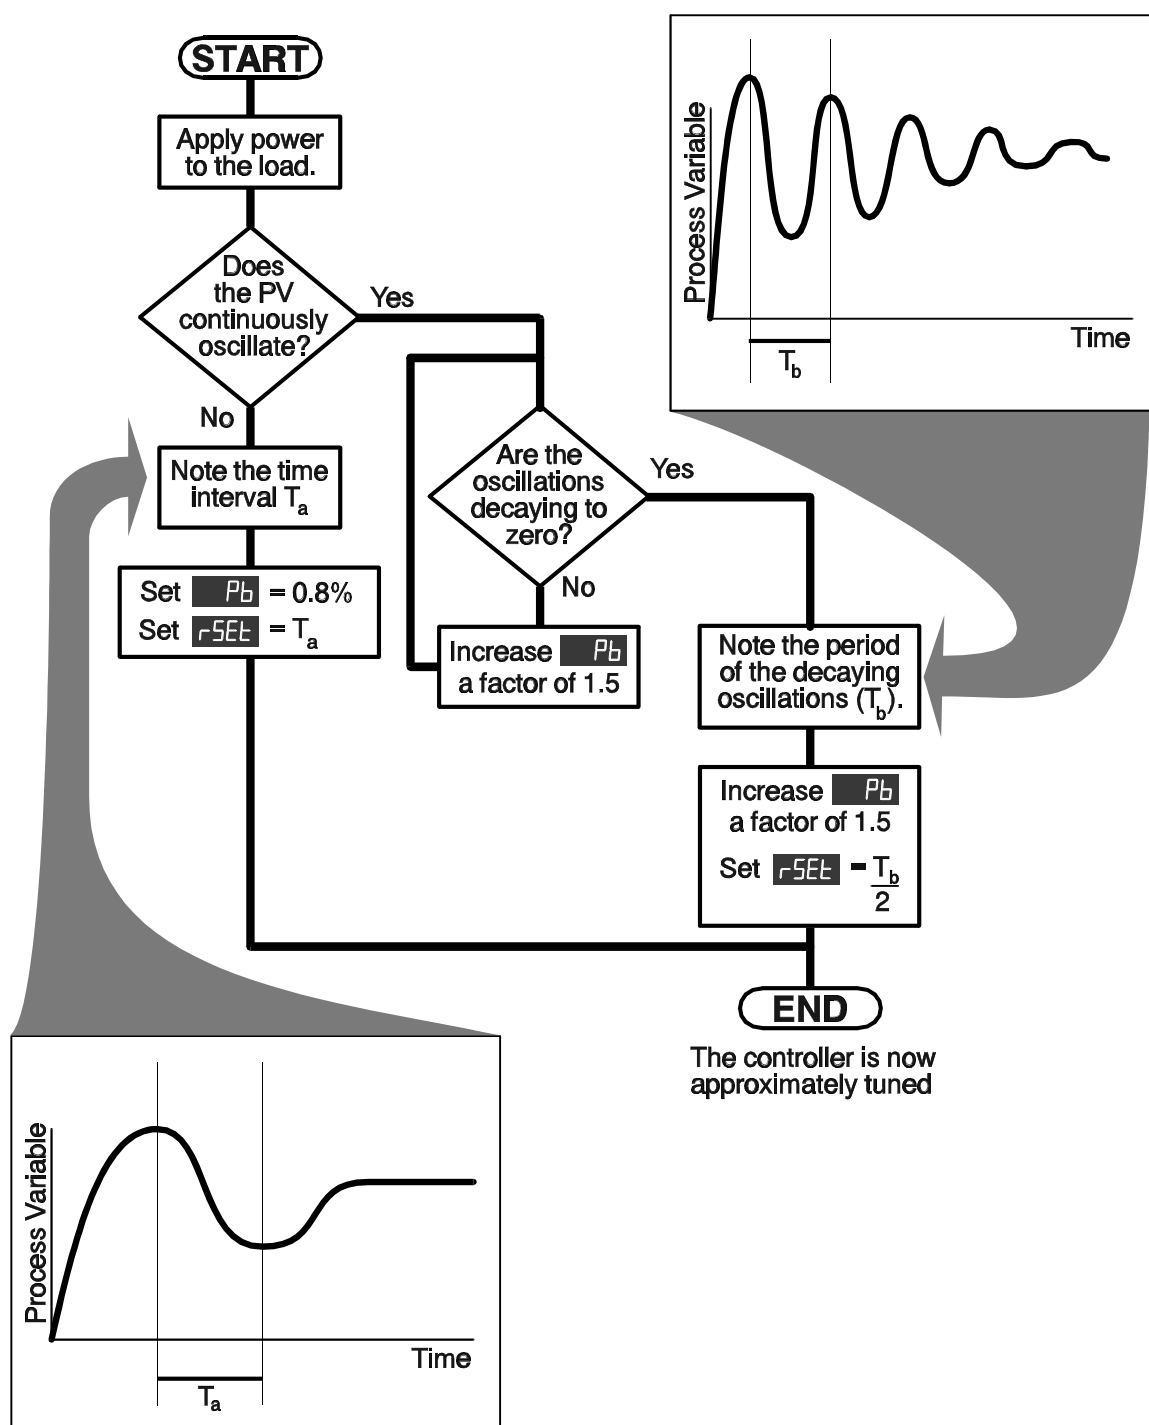

Figure 3-3 Manual Tuning Technique
8. Follow the instructions in Figure 3-3. At each stage, allow sufficient settling time before moving on to the next stage.